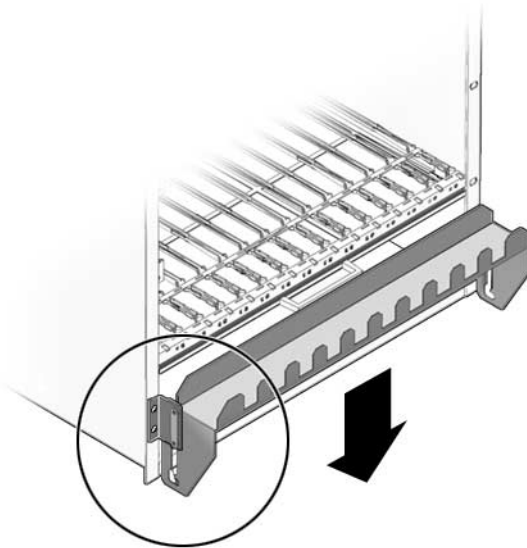

FIGURE 4-5 Front Cable Management Bracket in Lower Position
1. Move the front cable management bracket to the lower position (FIGURE 4-5).
2. Move the front cable management bracket to the lower position (FIGURE 4-5).